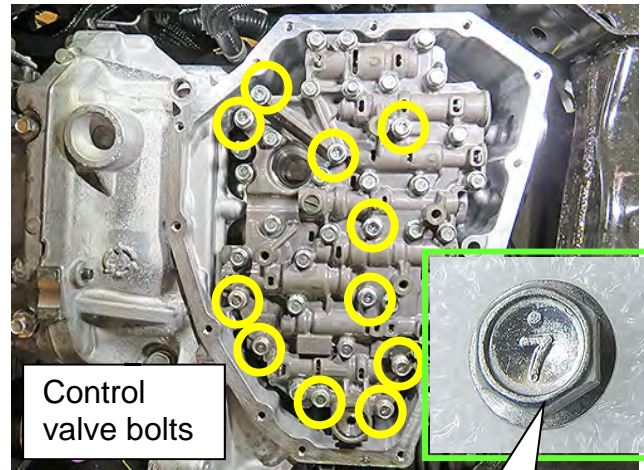

Figure 6
11. Remove ONLY the eleven (11) control valve bolts with markings as shown in Figure 6.